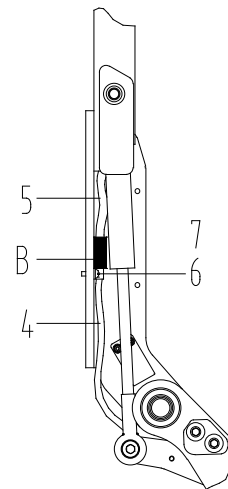

Figure 3
- As shown in Figure 3, connect the connectors of the truck body harness 4 and the handle harness 5 (pay attention to the alignment direction). As shown in B, fix the harness firmly with the wire clamp 6 and the screw 7.